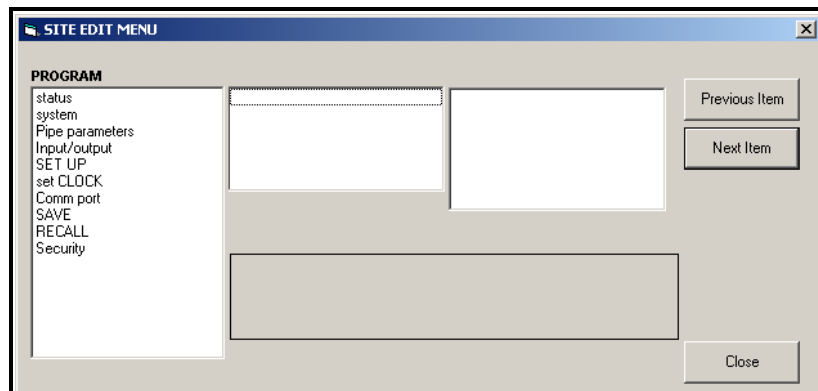

Figure C-20: The *Site Edit Menu* Window
5. To open a particular menu, double-click on that menu on the tree. For example, if you double-click on the Site Edit Menu, a window opens similar to Figure C-20 below.